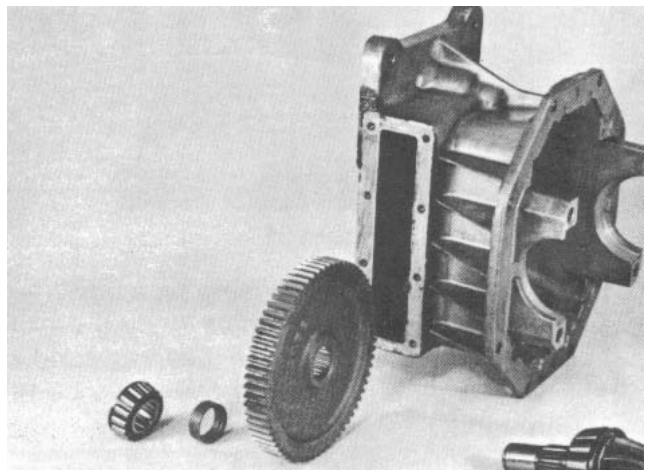

Figure 33
13. Removing the drive pinion releases the spur gear (Fig. 33).